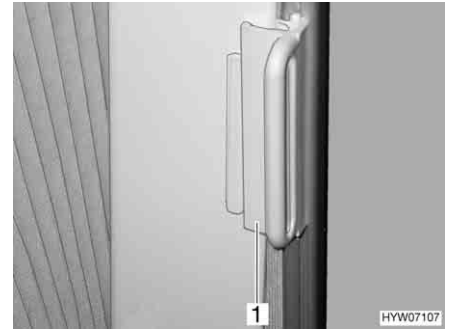

Fig. 28 Lock for Roman shade
*Securing:* ■ Push the handle (Fig. 28,1) onto the cap. The Roman shade is secured.